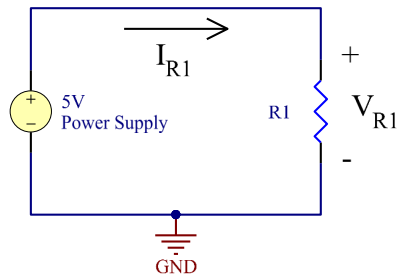

Figure 8
In this part, you are required to measure the current flowing through the resistor R1 (I_{R1}) in the circuit given in figure 8. For R1 use an 887 Ω resistor. Measure the resistor with the DMM before you put it into the circuit.
Connect the circuit as shown in figure 8 on the proto board. For this setup, the power supply is a 5VDC voltage source. On the DC supply the voltage connections go to +6 and COM as done in the voltage measurement procedure. Don't use the green connector with the \perp symbol. This connector is actually tied to the ground pin on the AC outlet. It is not the power supply ground.
- Reconnect the circuit as shown in figure 8.